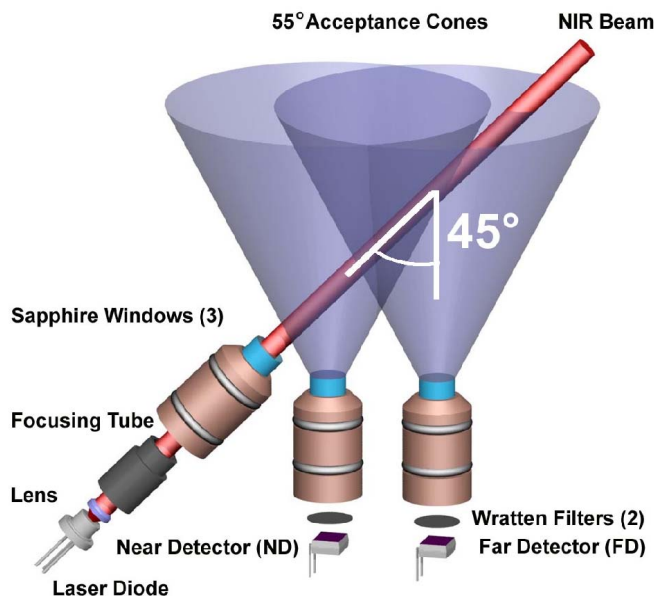

FIGURE 4-2. Schematic of optical system
The heart of the OBS-5+ is an optical system comprised of a near infrared (NIR) laser diode and a photodetector positioned 10 mm from the laser, called the near detector (ND), and one mounted 25 mm from the laser, called the far detector (FD), see FIGURE 4-2. The detector acceptance-cone angle is 55°, which means that photons must enter the detector sapphire windows at angles less than 27.5° to be detected. The laser light is collimated to a 3 mm by 1 mm elliptical beam with convergence < 2.5 mrad. The angle between the NIR beam and detector acceptance-cone axes is 45°. The OBS-5+ can detect light scattered by particles illuminated by the NIR beam at angles between 105° to 165°. With its automatic-power-control circuit, the laser diode provides stable optical power over time and the 0 to 30°C operating temperature range.
In FIGURE 4-2, suspended particles scatter light from the NIR beam onto the near and far detectors, and suspended solids concentration (SSC) is estimated with signals counts from these detectors by a microcontroller, using a set of logic rules and lookup tables derived from calibration data. Counts are the digital equivalents of the ND and FD signals and are proportional to backscatter intensity. Sample calibration curves relating ND and FD counts to sediment concentration in  $\text{g L}^{-1}$  are shown on FIGURE 4-3. As particle concentration increases from 0, the ND and FD signals rise to maxima at peak concentrations, shown by the red (open) and blue (solid) arrowheads above the x axis. Beyond the peak sediment concentrations, light attenuation is the dominant factor controlling the light level at the detectors, and so the ND and FD counts decline. The scattered NIR must travel farther to be detected by the FD than by the ND, and therefore the peak of the FD curve occurs at a lower sediment concentration than the peak of the ND curve. The instrument exploits these peak offsets to estimate sediment concentration. Using either the ND or FD counts, whichever is indicated by the logic rules, the microcontroller does a spline interpolation between calibration values to derive an SSC value. It then combines this value with time and pressure data, and sends the results to a PC.